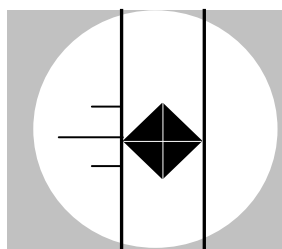

Fig 5-10 Move Right Filar Line to Right Tip
6. Turn the measuring knob to move the right-hand filar line to the right tip as Figure 5-10 illustrates.